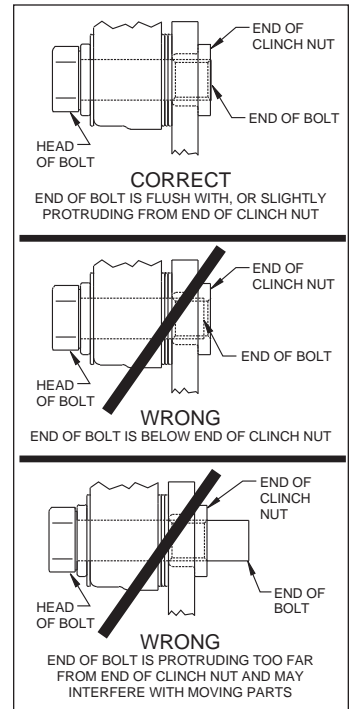

Figure 4. Clinch Nut Engagement Diagram
Assembly Instructions (numbers in parenthesis refer to the parts list, and Figure 1 on the preceding pages): **CAUTION:** All mounting bolts must fully engage clinch nuts. Be sure to check that all bolts are either flush or protruding through flanged side of clinch nut after shimming, Figure 4.
- NOTE:** Please reference the caution statement at the beginning of the assembly instructions. Mount the caliper (3) onto the caliper mounting bracket (1) using bolts (5) and washers (4), as shown in Figure 1. Initially place two .035" thick shims (6) on each bolt between the caliper and the bracket, Photo 4. Temporarily tighten the mounting bolts and view the rotor (2) through the top opening of the caliper. The rotor should be centered in the caliper, Photo 5. If not, adjust by adding or subtracting shims between the bracket and the caliper. Always use the same amount of shims on each of the two mounting bolts. **NOTE:** The end of each bolt must be flush with or slightly protruding from the head of the clinch nut, as shown in Figure 4. If necessary place spare shims between washer (4) and caliper